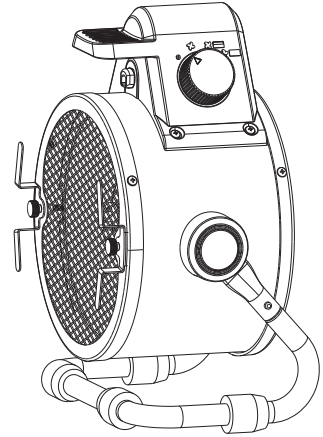

Figure 2
2. Ensure the cable reel assembly is correct, like on figure 2.